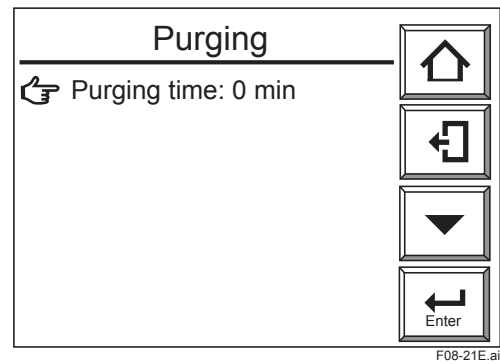

Figure 8.21 Purging Display
- (4) Select the “Purging”. The purging time setting display appears, as shown in Figure 8.21.
- (5) Point to the “Purging time” and press the [Enter] key. Then the display for selecting purging time appears.
- (6) Enter the desired numeric value from the numeric-data entry display. The allowable input ranges from 0 to 60 minutes.